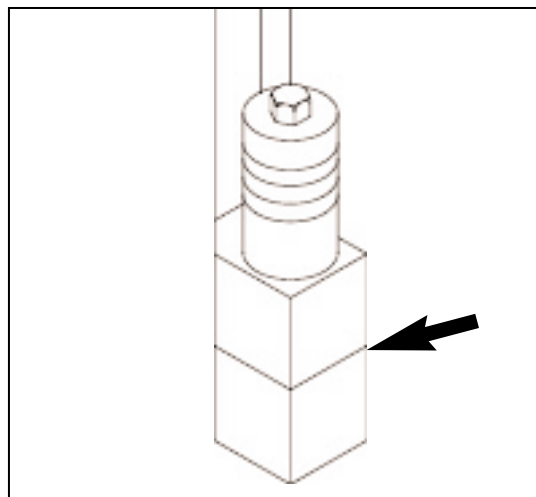

Figure 4.10 NO SPACERS.
- e. Store spacers on bottom side of bolt for front bolts and left hand rear bolt. For right hand rear bolt store spacers on top. Tighten bolts at all 4 corners that secure mold throat plate spacers (see figure 4.10).